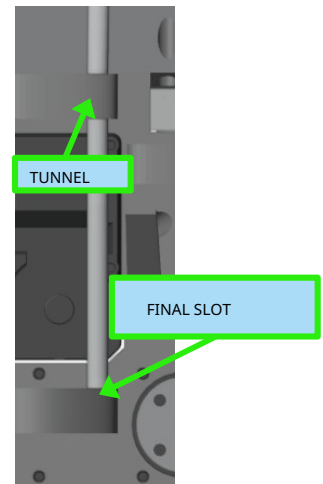

Figure 5.30:
2. Take the remaining part (on the back of the skeleton) and thread it first into the passage tunnel and then into the final slot figure 5.30).